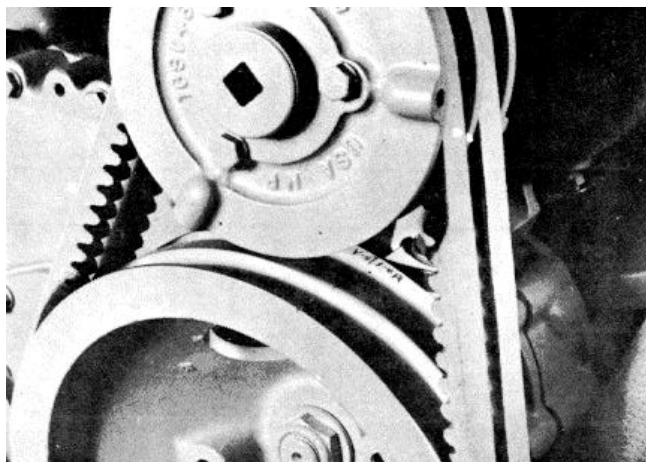

Fig 2-45, (V41484). Valve set mark - V-1710
- Bar the engine in the direction of rotation until a valve set mark (Figs. 2-45, 2-46 and 2-47) aligns with the mark or pointer on the gear case cover. Example: A or 1-6 "VS" on Inline Engines or 1-6R "VS" on V-1710 Engines.